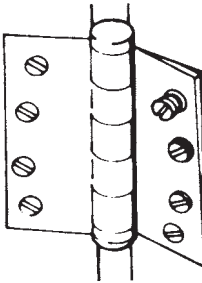

Figure 13.5 Are the hinges loose?
- Are the hinges loose? Tighten the screws, filling holes if necessary, or rehang the door if the screws will not hold (Fig. 13.5).